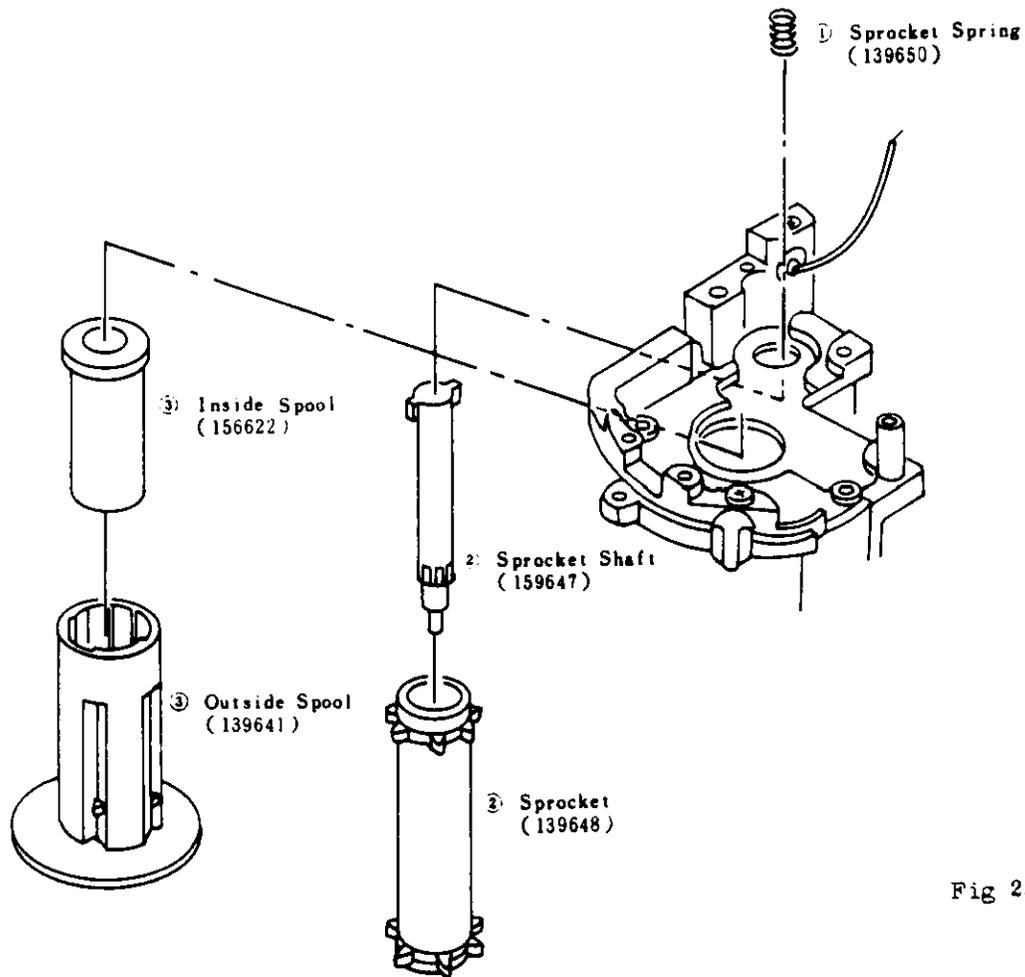

Fig 25
d) Remove the respective parts ①~④ shown in (Fig 25) in numerical order.